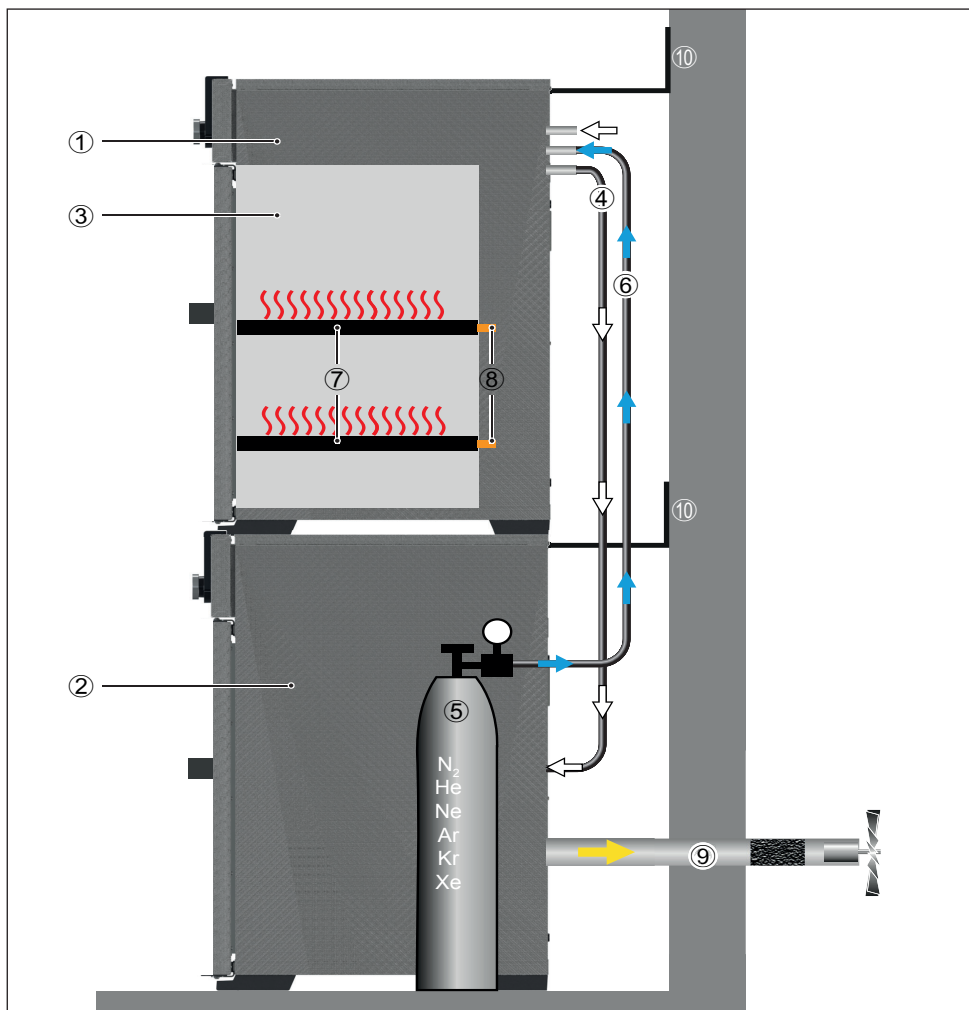

Fig. 3 Function of vacuum ovens VO in conjunction with a pump module
The devices of the VO series (Fig. 3 ①) can generate a vacuum in working chamber③ in conjunction with Memmert pump module ② or another suitable vacuum pump. The vacuum inlet on the back of appliance ④ evacuates the working chamber through the pump.